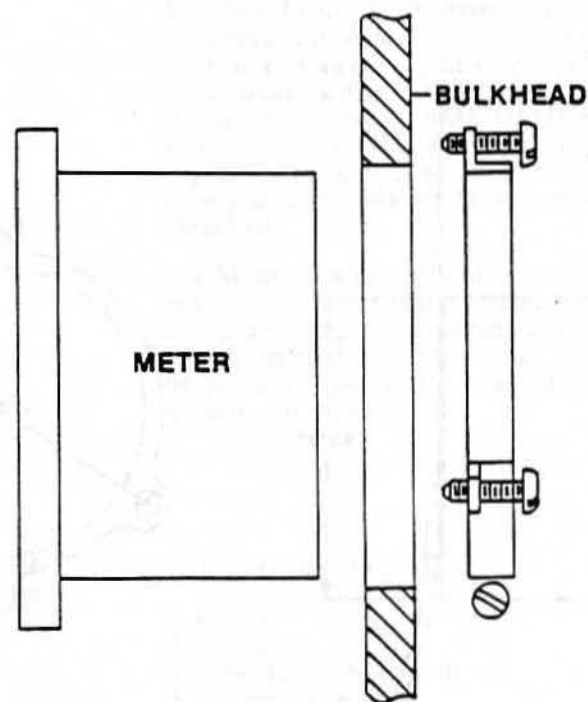
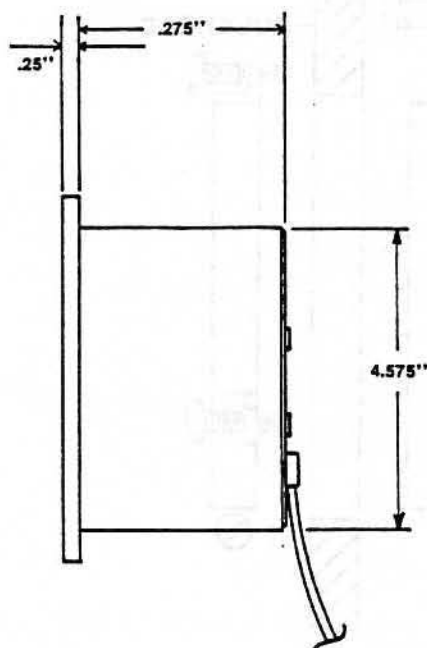

Figure 1. Side view of MK 254 Wind Instrument Installation.
Figure 2. Detailed profile of MK 254 Indicator (left) and clamp ring (right).
4. Loosen the ring clamp. Install on the case from the rear, as shown in Figure 1. With the Indicator flange against the bulkhead, position the clamp against the rear of the bulkhead, and tighten securely. Turn the three bracket screws clockwise until the Indicator flange is seated snugly against the bulkhead (See Figure 2). Do not over-tighten; this may cause the clamp to slip.